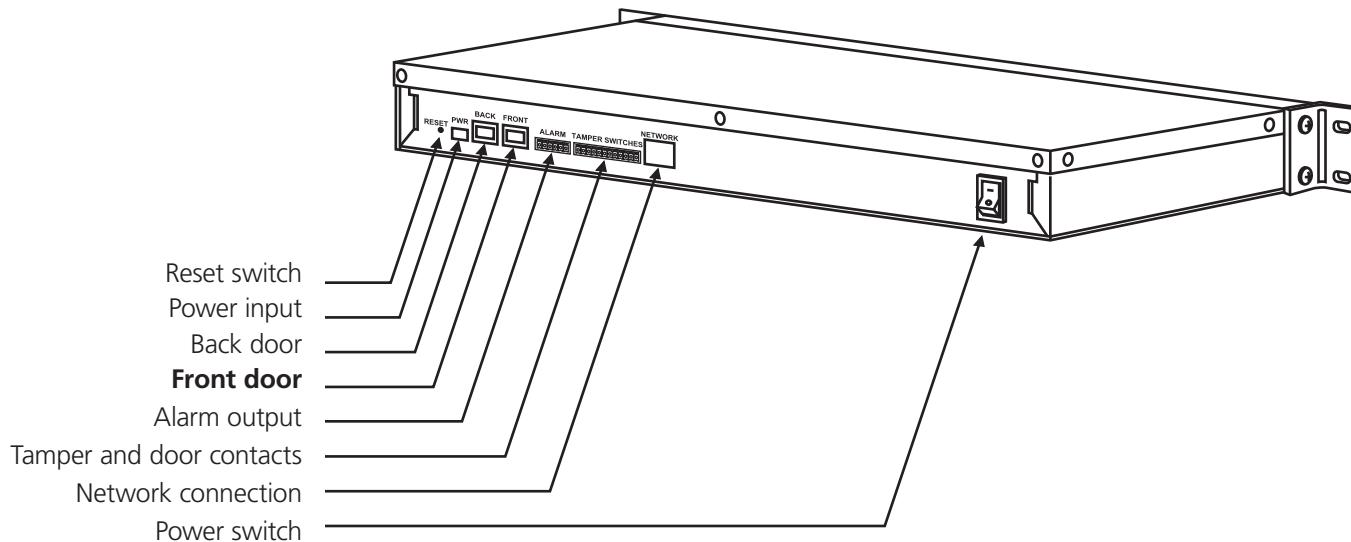

Figure 11. Connecting CAT5 cable to the control unit.
- Connect the CAT5 cable to the port labeled "FRONT DOOR" on the back of the Control Unit as shown in Figure 11.